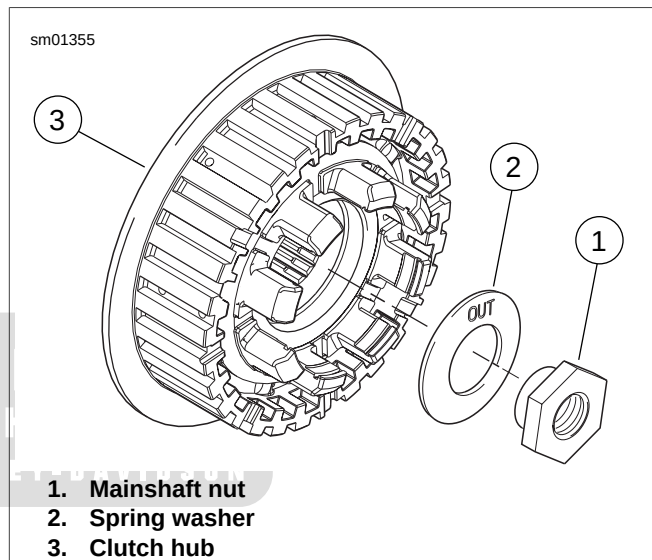

Figure 5-19. Mainshaft Nut and Washer
See Figure 5-19. Washer (2) must be installed with the word "out" facing the transmission mainshaft nut (1). Incorrect assembly can result in clutch and/or transmission failure.
6. See Figure 5-19. Apply two or three drops of **LOCTITE Threadlocker 262 (red)** onto threads on end of transmission mainshaft. Install spring washer (2) and mainshaft nut (1) (left-hand threads) on transmission mainshaft. Tighten nut to 70-80 ft-lbs (95.0-108.6 Nm).